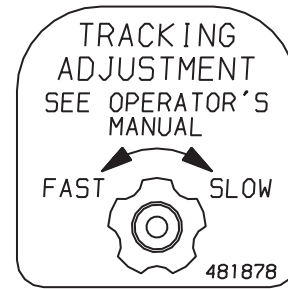

Figure 12. Neutral Adjustment
4. Starting on the left side of the machine, rotate the tracking adjustment knob counter clockwise just until the LH wheel starts to creep forward. Make a note of the position of the adjusting knob. (See Figure 12)